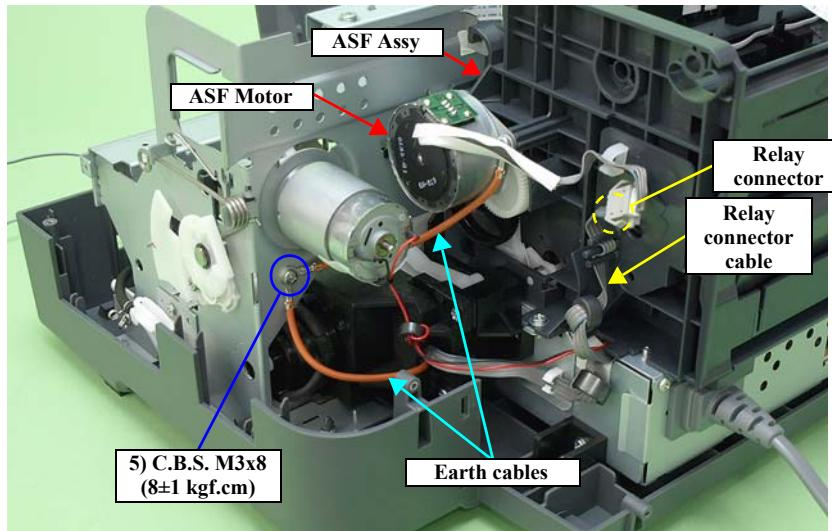

Figure 3-84. Releasing the Cables (1)
- Referring to Figure 3-84, correctly route the Relay connector cable.